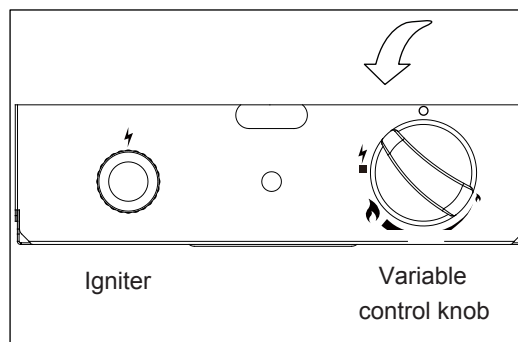

Figure 1
3. Push control knob in and rotate counter clockwise to “pilot” () position (Figure 1).